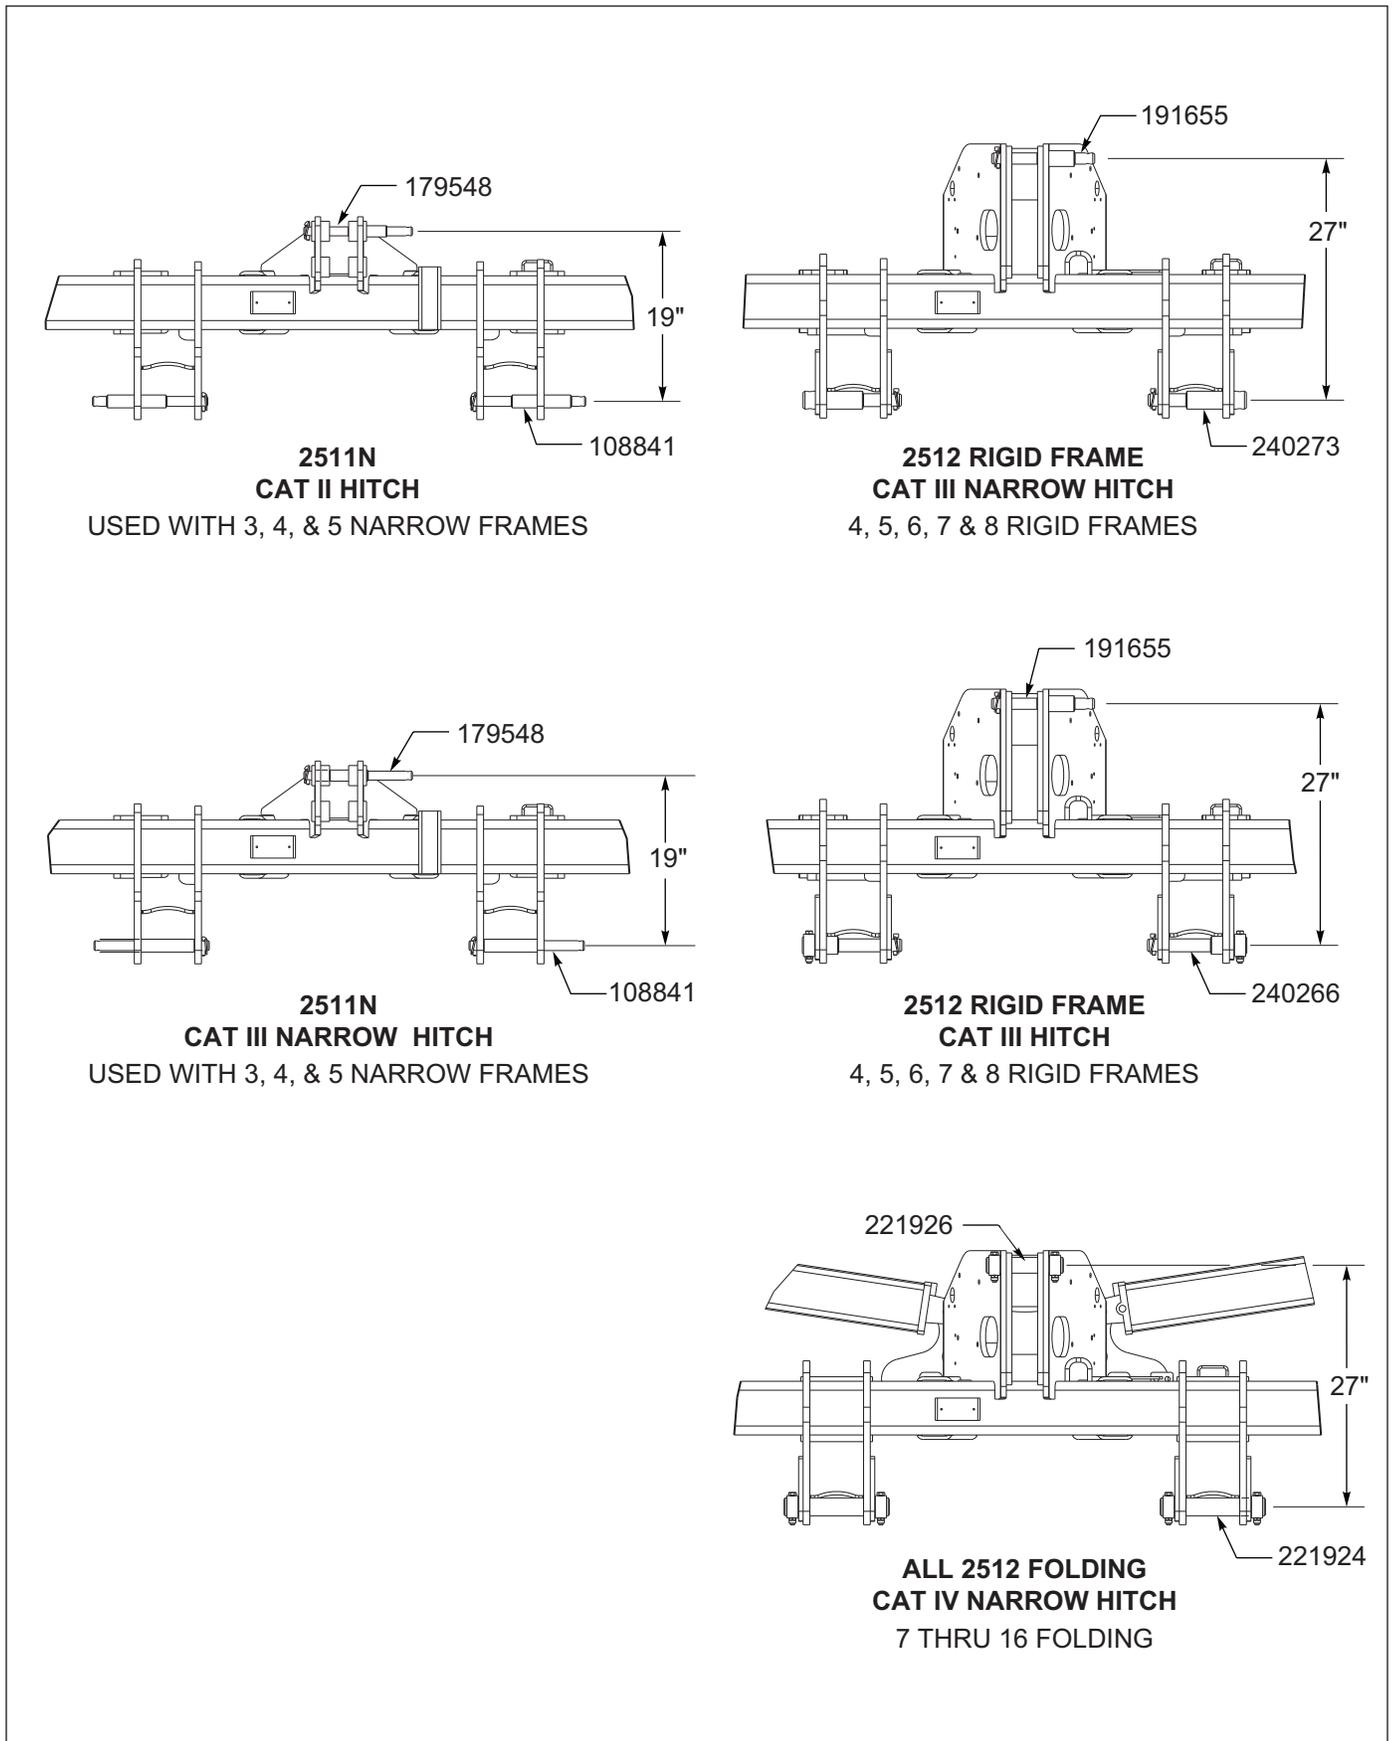

Figure 4-2: 3-PT Hitch Setup
- a. Attach Lower Lift Arms of the tractor to the Zone Commander utilizing appropriate Pins. 2512 Rigid Model come with either Category IIIN, CAT III, and CAT IVN. 2512 Folding Models come with CAT IVN ONLY. **See Figure 4-2.**